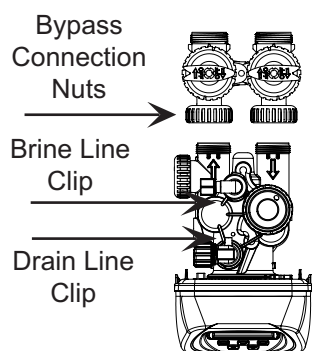

figure 1
4. Once the pressure is relieved, remove the Drain line from the control by pulling the lock clip. *see figure 1*
5. Next, remove the brine line that is connected to the salt tank by pulling the lock clip. *see figure 1*
6. Loosen the connection nuts between the valve and the bypass. *see figure 1*
7. Insert Brine Line into it's position and install the lock clip. (*see page 16 figure 1*)
8. Insert the Drain line into it's position and install the lock clip. (*see page 16 figure 1*)